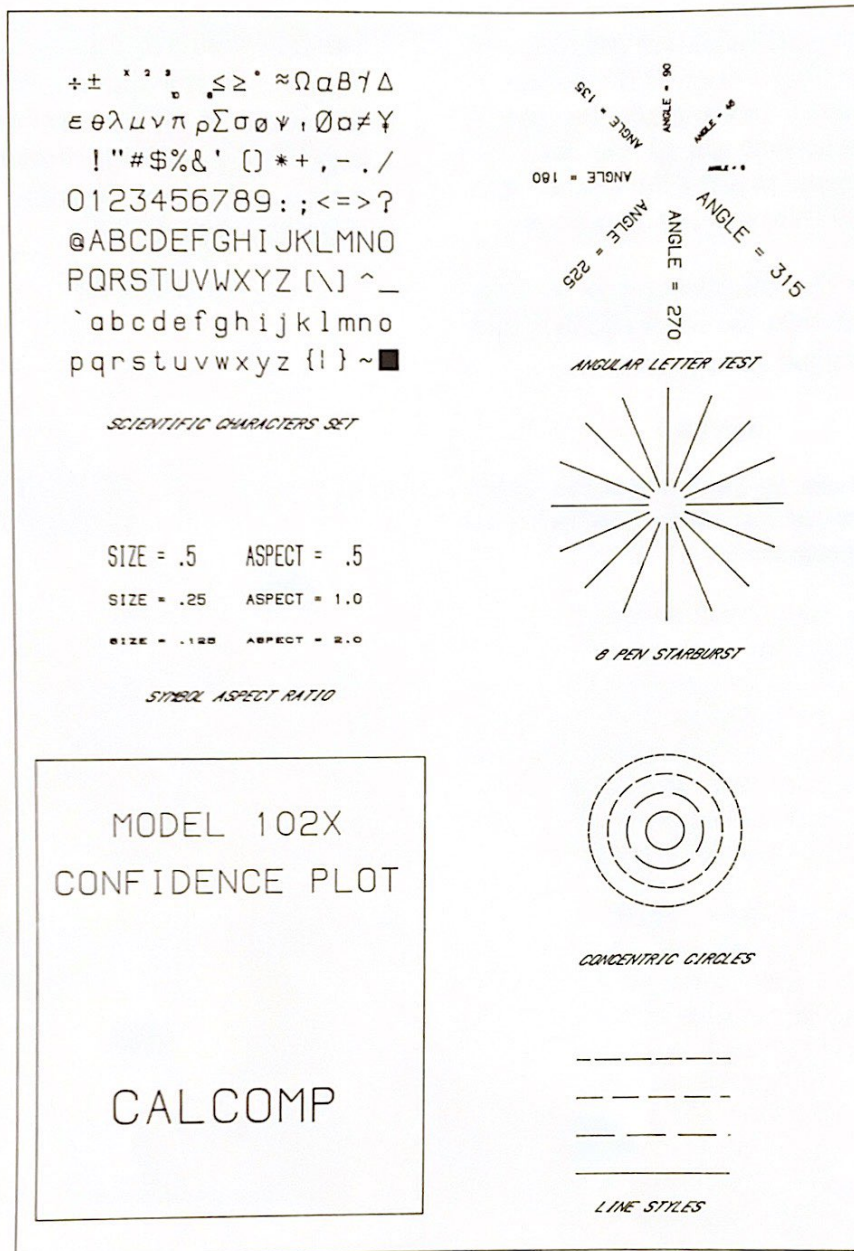

Figure 1-11. Confidence Plot
8. The plot should appear as shown in Figure 1-11. If it does not, repeat the procedure. If the plot still does not look like Figure 1-11, contact a Cal-Comp Sales and Support Office listed in Appendix D.